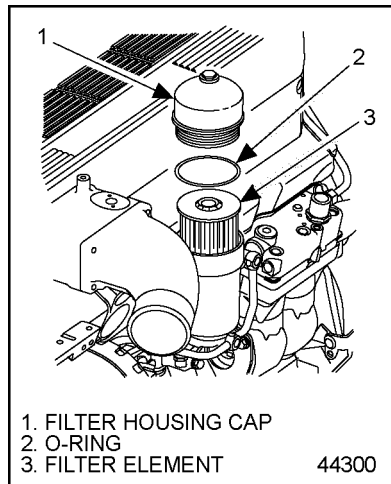

Figure 26 Main Fuel Filter
2. Clean the outside of the fuel filter housing (see Figure 26).